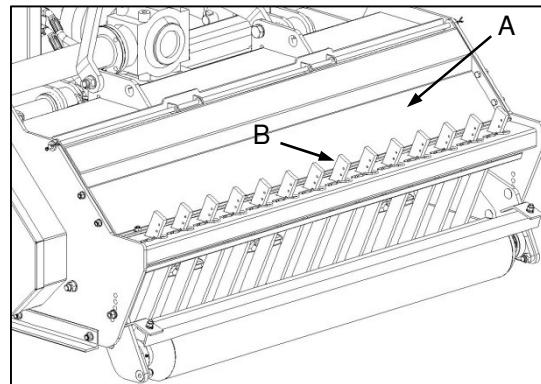

Fig. 2
➤ Containment mode (Fig. 2)
- ✓ Discharge chute in the closed position (Fig. 2-A), allowing heavy materials to be repeatedly processed.
- ✓ Tines should remain in position in this configuration to provide added containment of materials until sufficiently processed to pass between the tines (Fig. 2-B).
➤ Behoudmodus (Fig. 2)
- ✓ Afvoergeut in die geslotte posisie (Fig. 2-A), wat toelaat dat swaar materiale herhaaldelik verwerk word.
- ✓ Tande moet in hierdie konfigurasie in posisie bly om ekstra behoud van materiale te verskaf totdat dit genoegsaam verwerk is om tussen die tande deur te kan beweeg (Fig. 2-B).